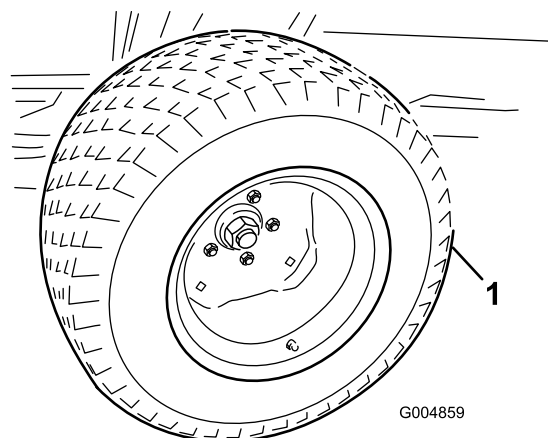

Figure 6
3. Install the summer drive tires (Figure 6)